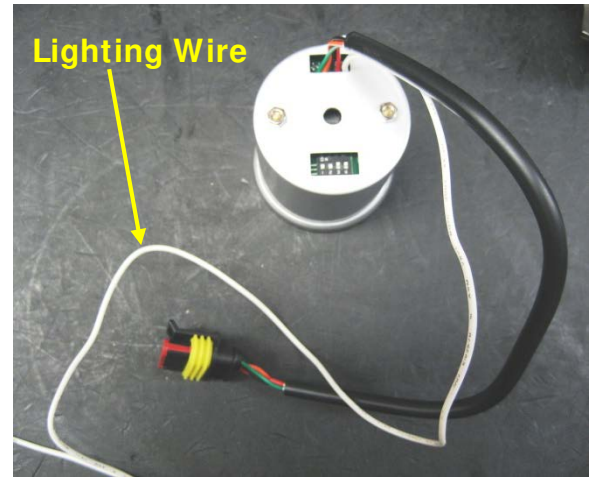

Fig. 19
4. Gauge lighting: refer to a wiring diagram for your vehicle and connect the white gauge wire to the output of the dash light dimmer knob, or directly to the headlight switch if desired (see figure 19).